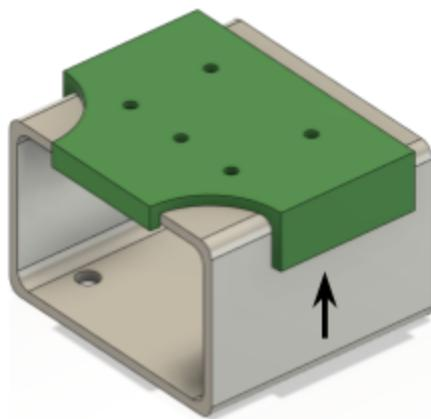

Figure 7.2
5. Position Assembly Tool #5 on the top face of one Y-Axis frame beam with the number on the printed part facing the beam and all tabs securely holding position as shown in Figure 7.2.